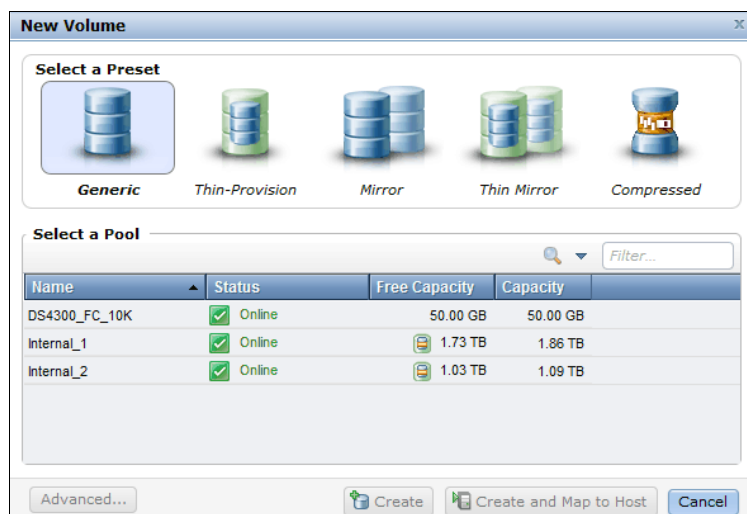

Figure 6-3 New Volume window - select pool
1. Click **New Volume** and select **Generic** as shown in Figure 6-3.